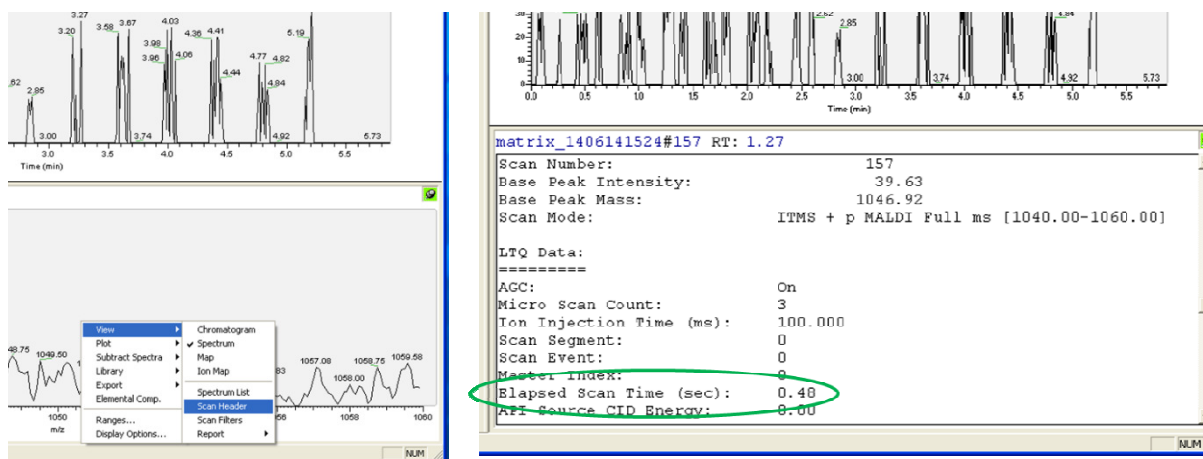

Figure 7.12.3 Viewing the Scan
- b. Qual Browser- right click to the MS window and select the **View >Scan Header** (the user needs to look for the “Elapsed Scan Time”-see Figure 7.12.3).